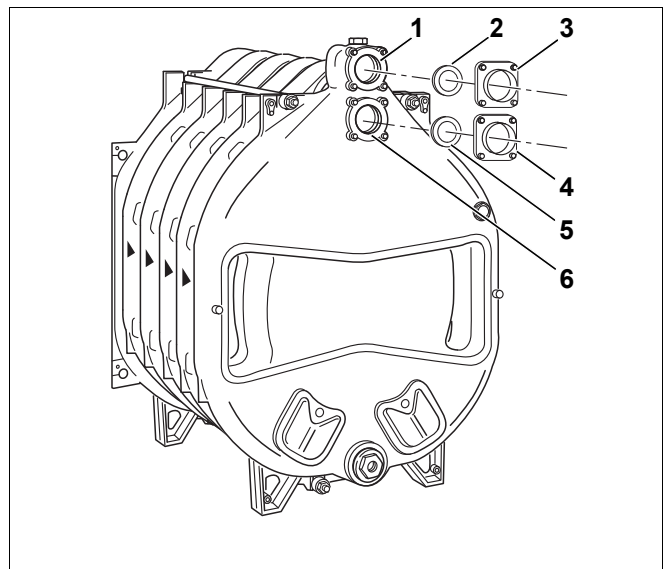

Fig. 23 Connection flange installation
- The weld neck flange is fitted to the upper boiler hub (→ Fig. 23, [6] – return connection) when the return is installed later. The illustration shows the weld neck flange and the flat gasket (→ Fig. 23, [4] & [5]).
- The flow connection flange (→ Fig. 23, [3]) and the flat gasket (→ Fig. 23, [2]) are required for the flow connections which is fitted later (→ Fig. 23, [1]).